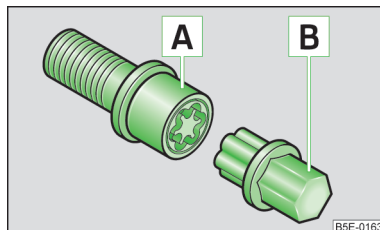

Fig. 201
- Insert the adapter **[B]** » Fig. 201 with its toothed side fully into the inner tooth-ing of the anti-theft wheel bolt **[A]** until the stop so that only the outer hexagon is jutting out.